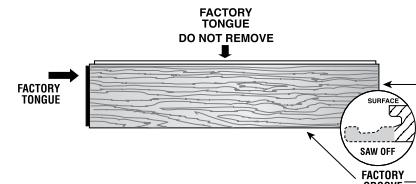

Fig. 9
- Prepare replacement board by removing bottom of groove on end and side (Fig. 9).